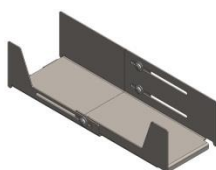

Figure 26
1. Facing the front of the Frame, install the left routing tray first (Figure 26). With the tray in the collapsed position, place in the desired location and expand the tray until the tabs can be positioned in the left routing slot (ex. Figure 29) and over the center frame body respectively.